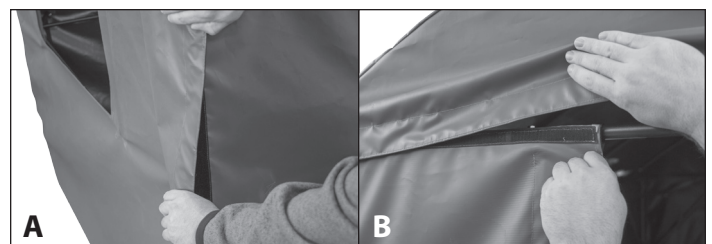

FIGURE 17
8. Secure all panels together in the corners by matching up the Velcro strips. Start at the top of the Velcro strips and working your way to the bottom. Adjust and redo as necessary to accomplish a snug fit and take out as much slack in the fabric panels as possible. **SEE FIGURE 17 A.**
9. Drape the roof panel (24) over the assembled roof frame. Match up the Velcro strips on front and back of roof panel to the front and back wall panels. Adjust and redo as necessary to take out as much slack in the fabric as possible. **SEE FIGURE 17 B.**